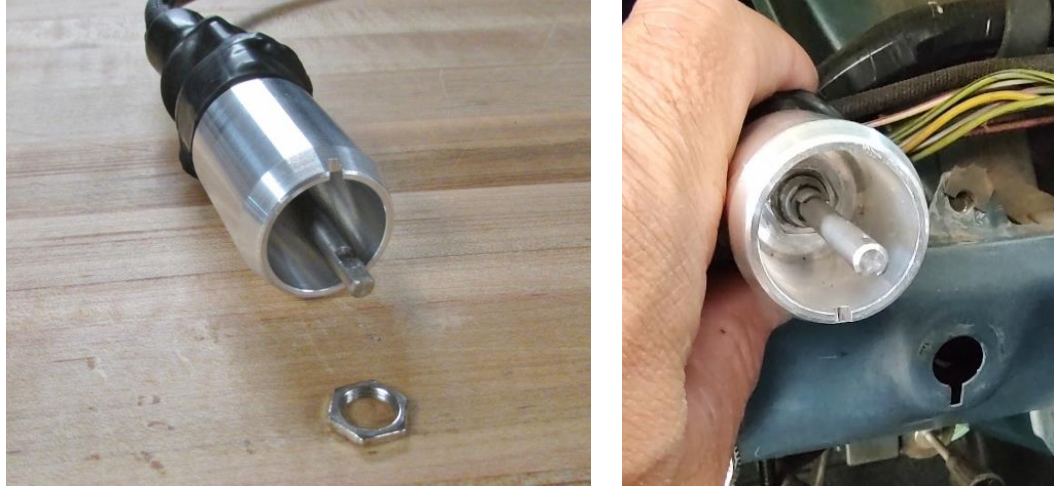

Figure 14 - Install Hex Nut
19. Hold the spacer in place on the wiper switch by re-installing the thin hex nut onto the DSE wiper switch using a 1/2" socket (Figure 14).